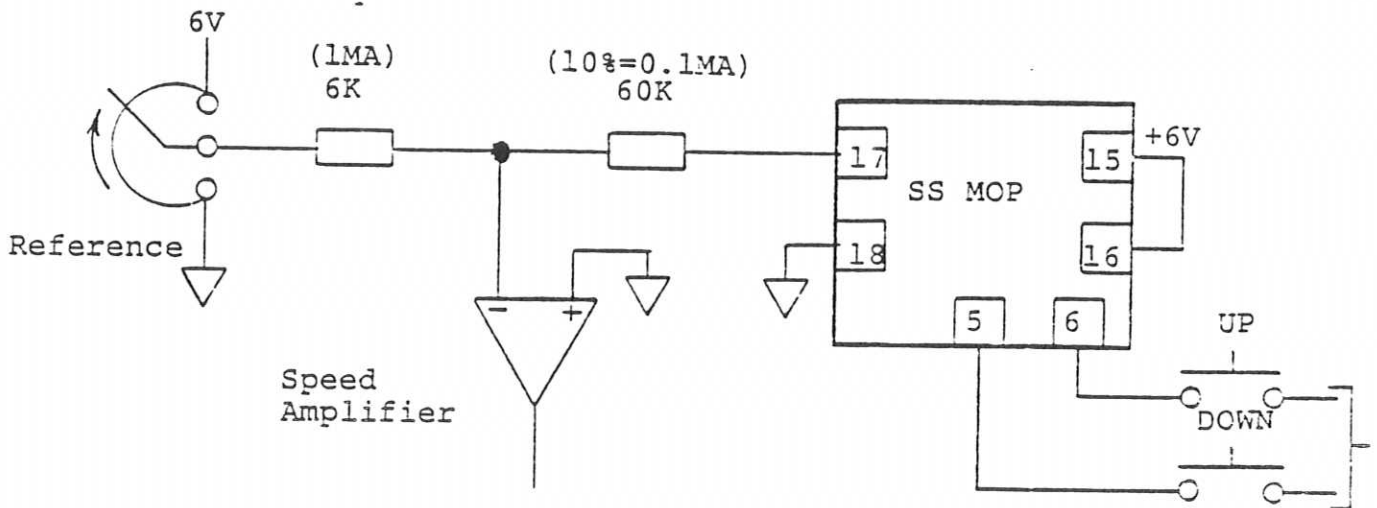

Figure 2 Fixed Amount
3. If used for remote adjustment of trim or draw either a fixed amount or a percentage change can be provided as shown in Figure 2 and 3 below.